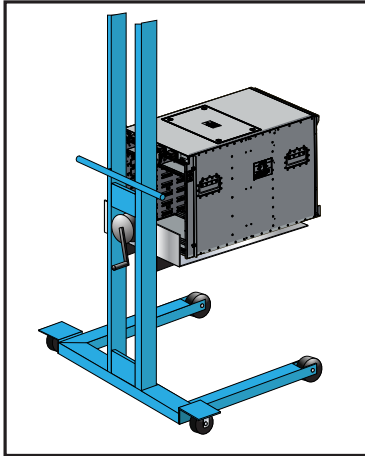

Figure 3-9: Lifting the Switch Chassis
Step 1 Move the chassis to the rack using a mechanical lift (Figure 3-9).